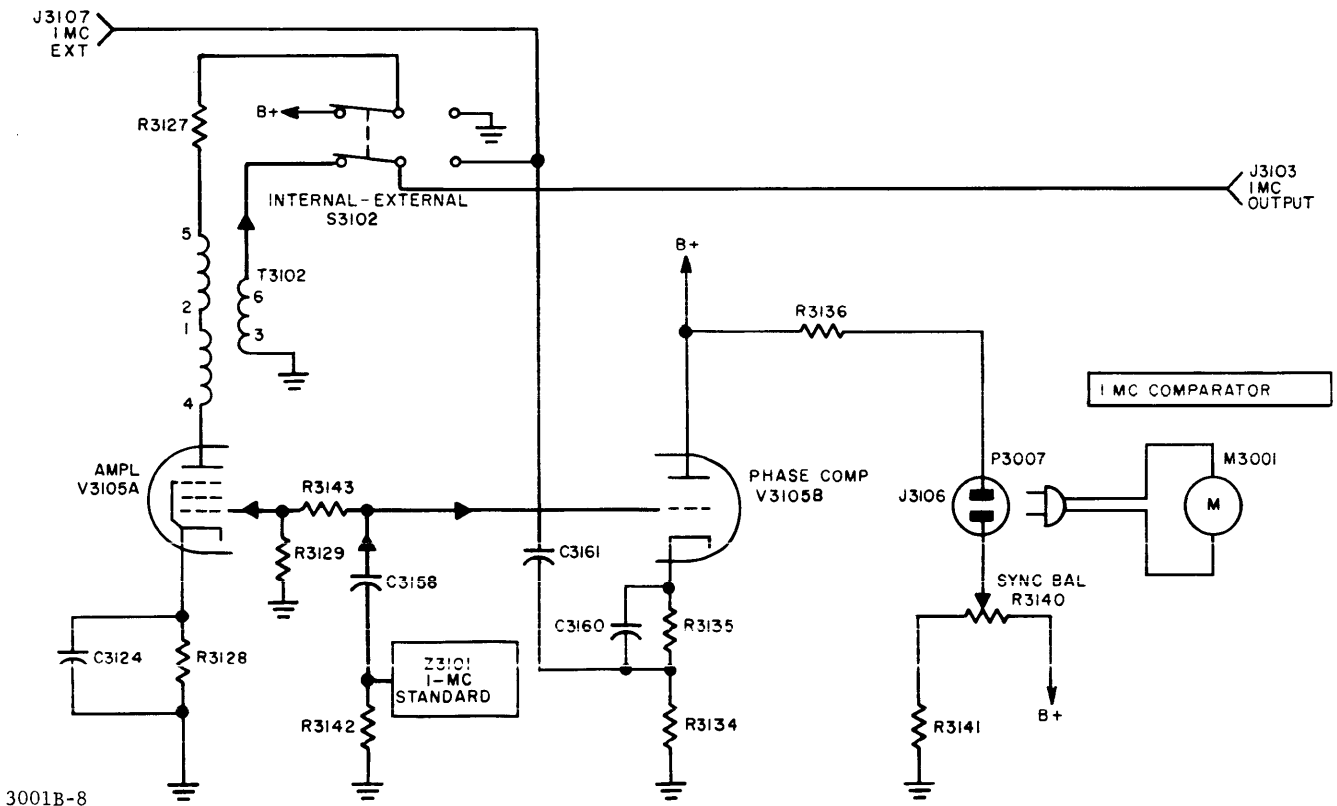

Figure 4-4. 1-Mc Frequency Standard Schematic Diagram (Part of 3100 Deck)
c. 1-MC FREQUENCY STANDARD (See figure 4-4.)